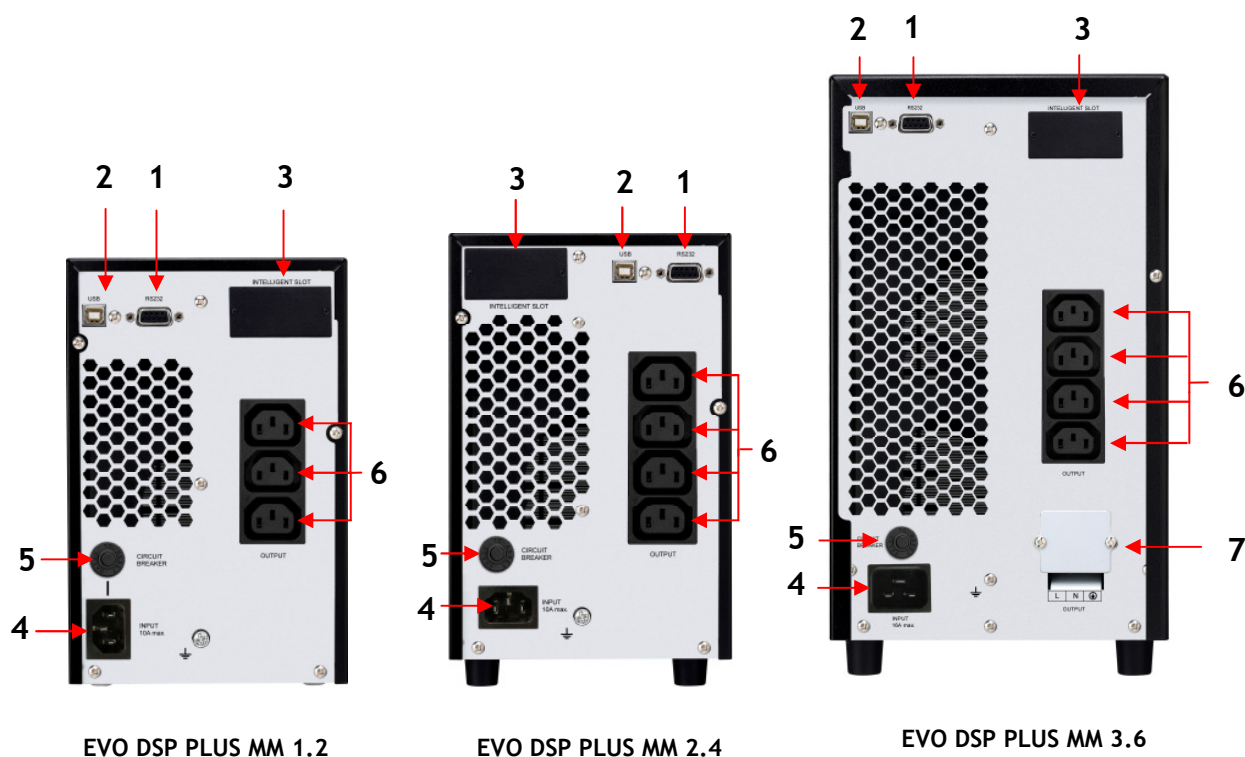

Figure 4 - Rear Side
1. Through the included power cable connect the UPS Input socket to the AC line outlet (see figure 4). **It is mandatory to ground the AC line outlet according to the Safety Standards.** Carefully check the grounding of AC line outlet.